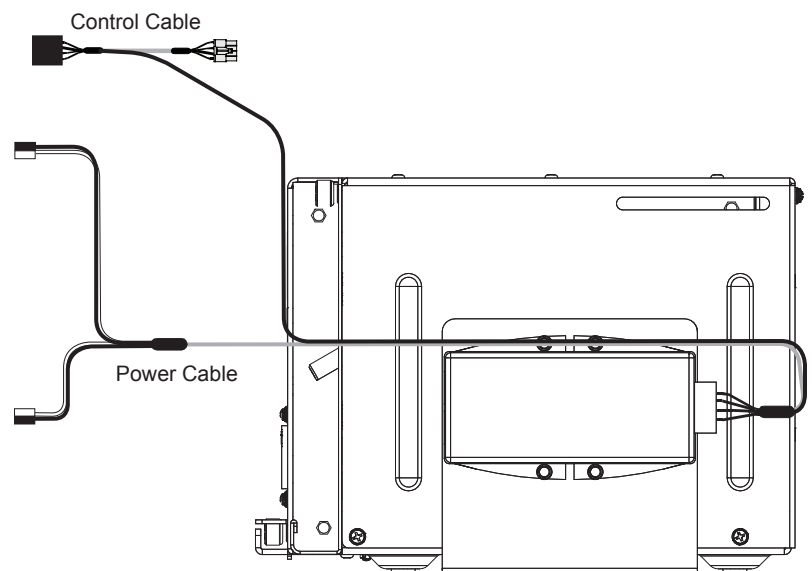

Fig. 3, Side view, Installed PoE Injector, mounting bracket and power/control harness
3. Connect the power/control harness to the 5-pin receptacle on the Injector at this time (see Fig. 3). Place the PoE Injector bracket under the power supply and center the bracket. Route the power/control harness either above or below the Injector.